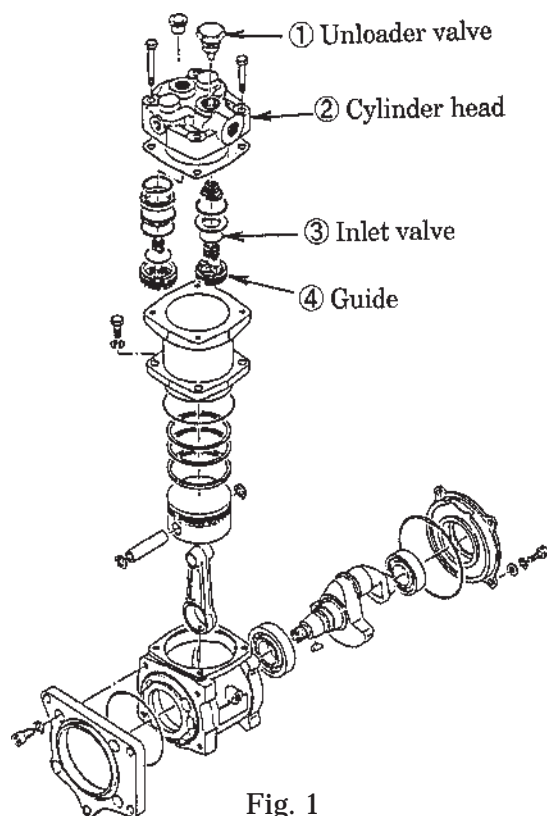

Fig. 1
The material and the sheet thickness of the inlet valve ③ according to Fig. 1 have been improved to enhance the durability.
- (1) Disconnect the water and air pipes from the air compressor.
- (2) Replace the head assembly (DK487018-5222) of the air compressor with the improved part.
Meanwhile, when the unloader valve ① according to Fig. 1 is found normal, replace the sub-assembly (DK487018-5321) of the head only.